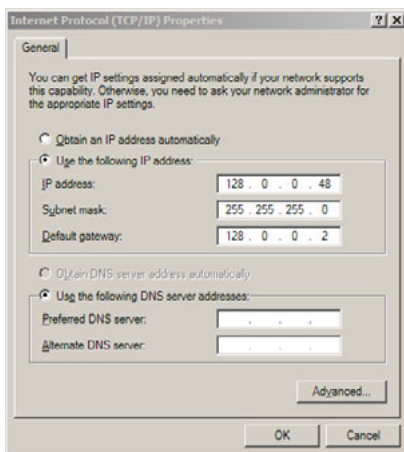

Figure 1-5. TCP/IP Properties
5. Select “Use the following IP Address” or confirm that it is selected, as shown in Figure 1-5.